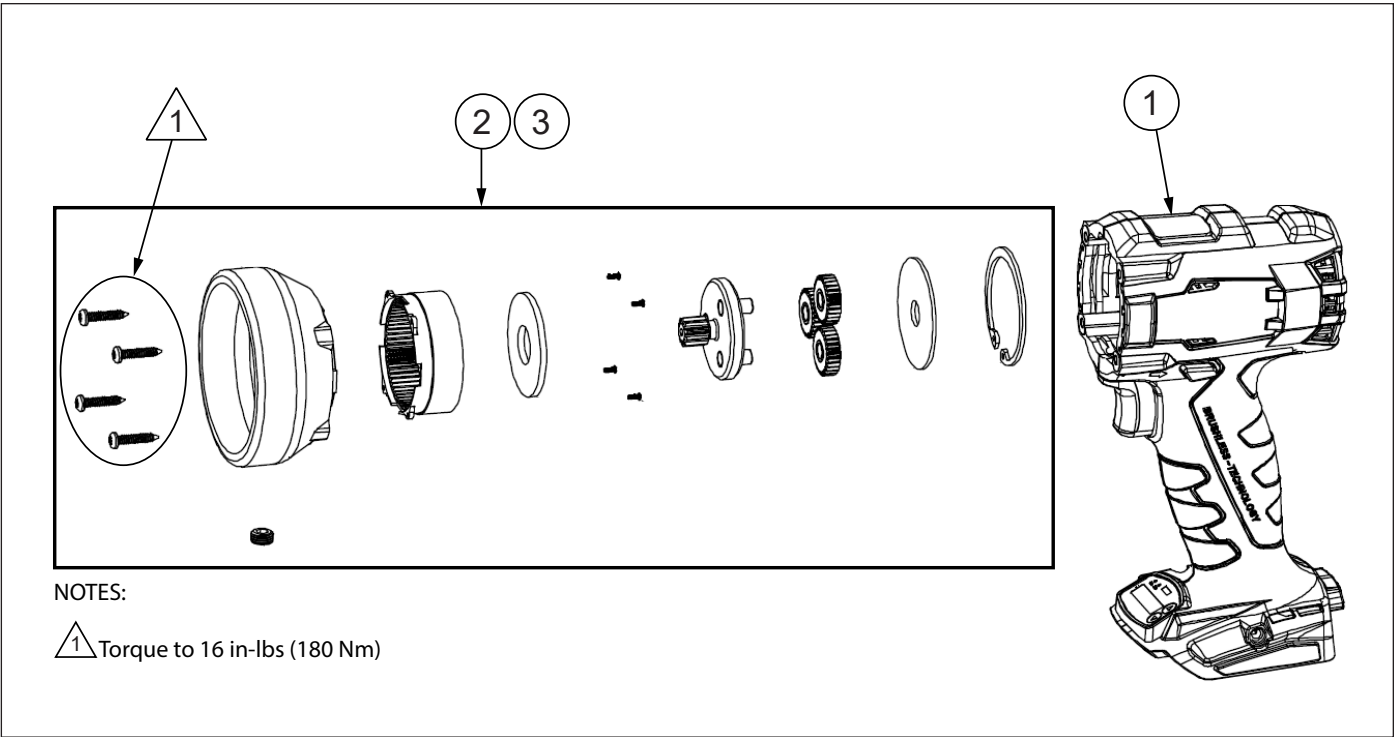

Figure 5: Handle Adaptor Kit
9.1.1 Table of Parts (Figure 5)